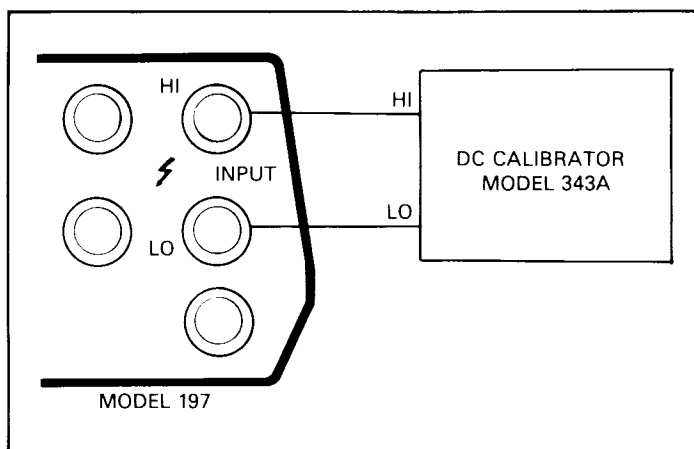

Figure 3-1. Connections for DCV Verification
2. Connect the calibrator to the instrument as shown in Figure 3-1.